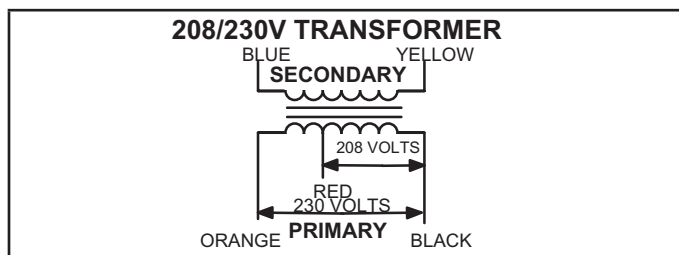

FIGURE 6
All use a single line voltage to 24VAC transformer mounted in the control box. Transformer supplies power to control circuits in the unit. The transformer is rated at 70VA and is protected by a 3.5 amp circuit breaker (CB8). The 208/230 (Y) voltage transformers use two primary voltage taps as shown in FIGURE 6, while 460 (G) and 575 (J) voltage transformers use a single primary voltage tap.